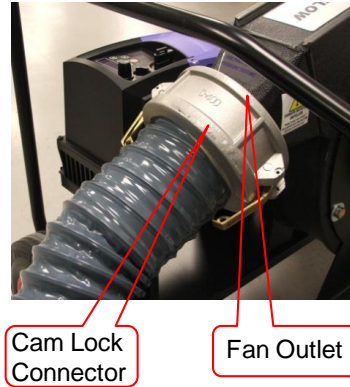
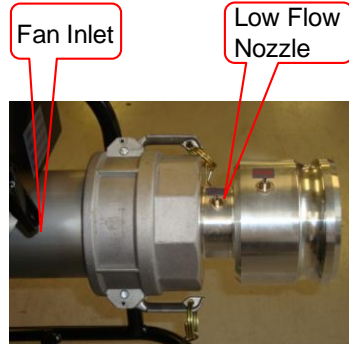

Figure 6. Positive Pressure, High-Flow Setup
Figure 7. Positive Pressure, Low-Flow Setup
- a. For positive pressure, high-flow testing, remove the low flow nozzle if it is installed. Then, connect the grey cast-aluminum cam lock connector to the outlet side of the blower per Figure 6. Close both cam lock arms at the same time to ensure proper fit.
- b. For positive pressure, low-flow testing, add the low-flow nozzle to the blower inlet if it is not installed per Figure 7. Then, connect the grey cast-aluminum cam lock connector to the outlet side of the blower per Figure 6. Close both cam lock arms at the same time to ensure proper fit.